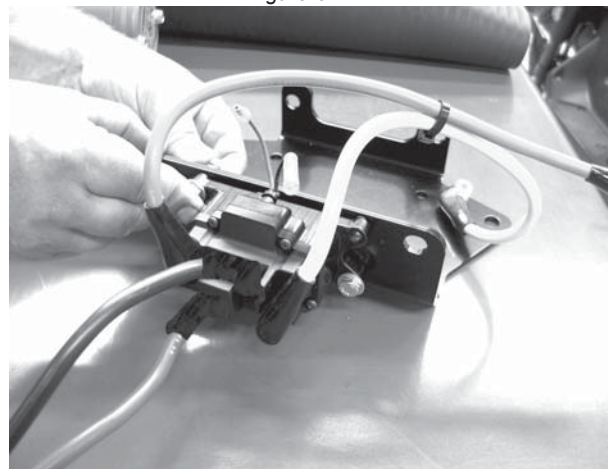

Figure 7
6. Install the four 6 gage color coded cables onto the contactor, matching the color coded terminals on the contactor. Attach the blue and yellow cable from the contactor to the winch. (figure 7) **Note:** Use the (14") blue and yellow cable supplied in the mounting kit. The long blue and yellow cables that came in the winch kit will not be used in this installation.